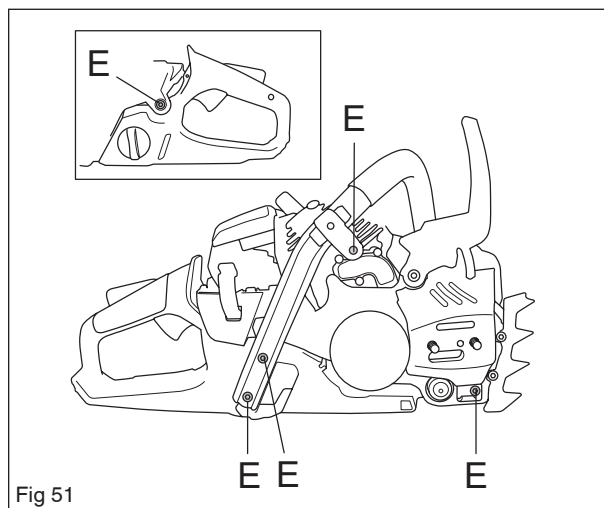

Fig 51
4. Loosen the screws E. See figure 51.
5. Tighten the screws E. See figure 51.